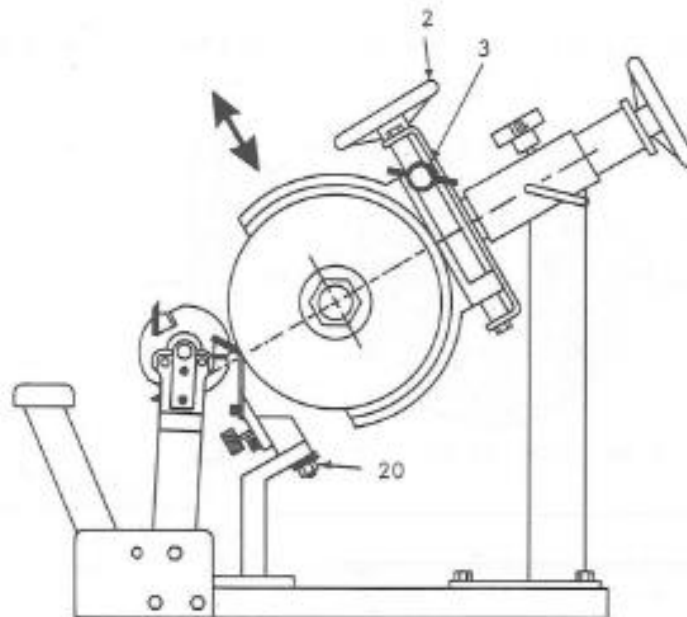

Figure 7
1. Change the front clearance by raising and lowering the grinding wheel (Fig.7), using the handwheel (2);
2. Secure the movement using the locking thumbscrew (3).